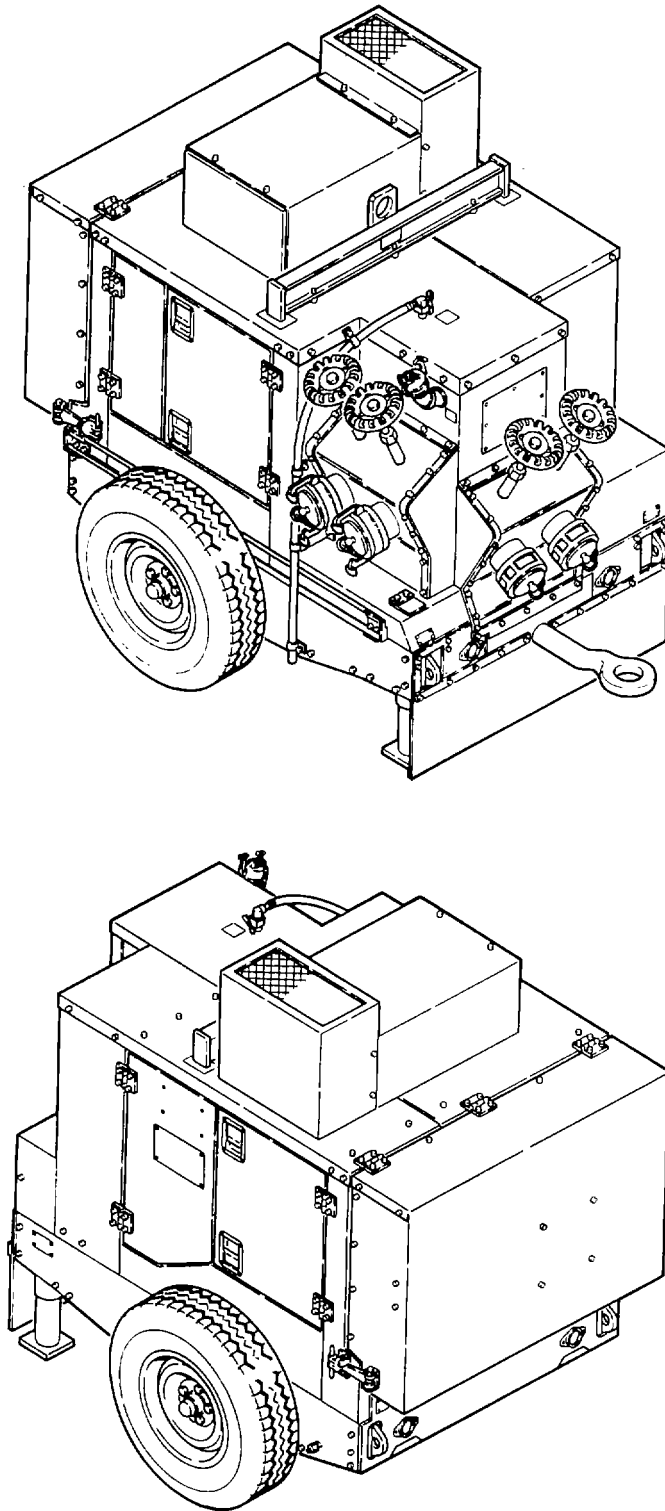

Figure 1-1. Pumping Assembly.
- b. This manual covers the 13229E8400 Bulk Transfer, Flammable Liquid Pumping Assembly and the 13229E8401 Centrifugal Pump Unit (Figure 1-1), hereafter called the pumping assembly.